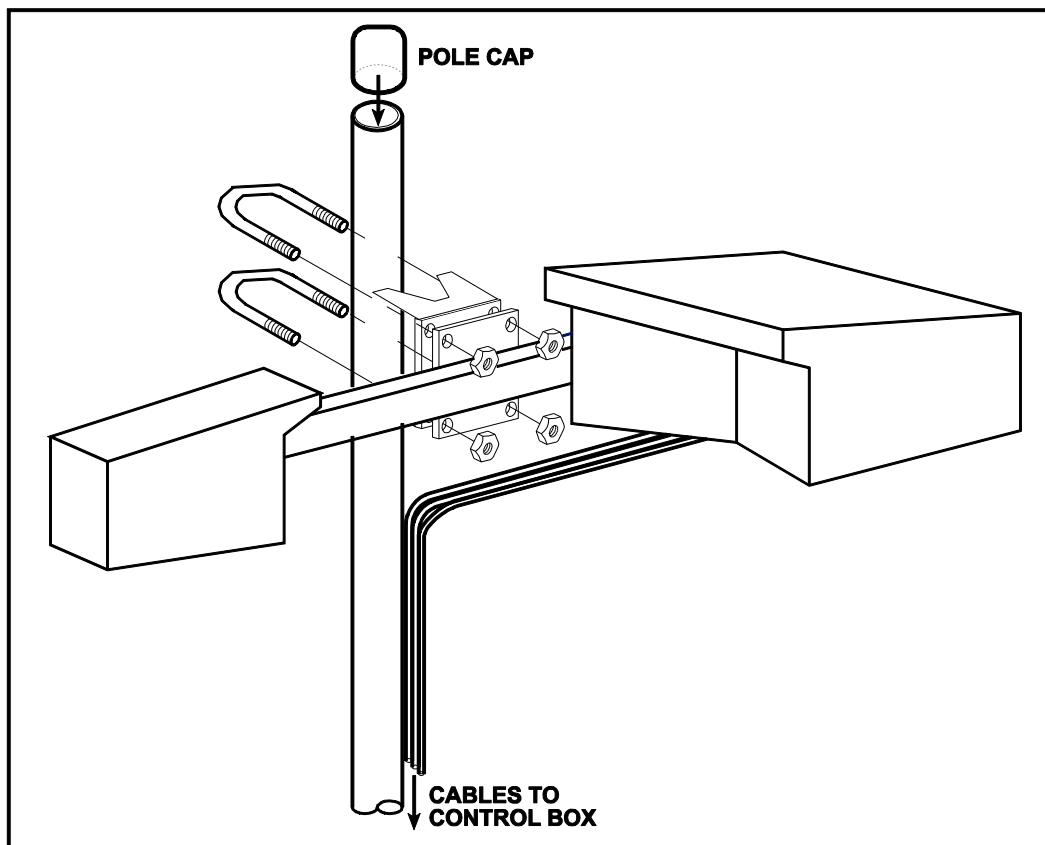

Figure 2. Mounting Sensor Head
1. Attach the sensor head using the two U-bolts to connect the mounting plate on the sensor head and the mounting bracket with the 1/4-20 hex locking nuts as shown in Figure 2. To mount the head to a vertical mast or tower section, install the U-bolts and mounting bracket horizontally. To mount to a horizontal tower section or boom arm, install them vertically using the same holes.